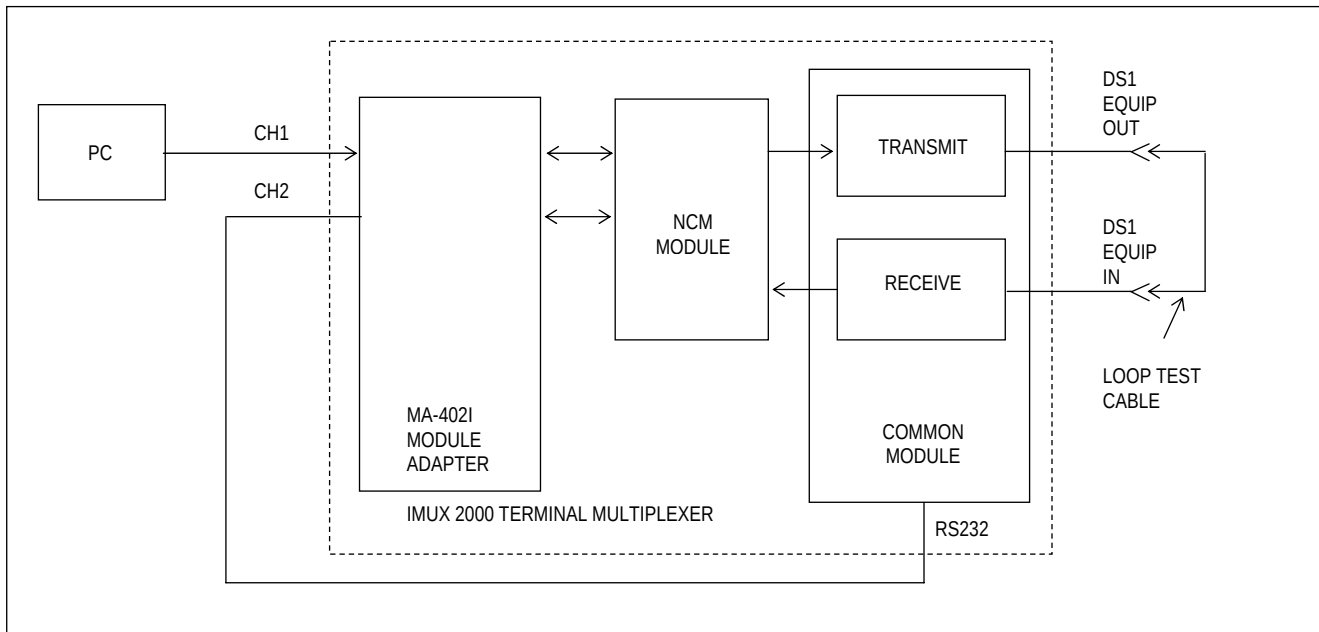

Figure 9. Simplified block diagram, loop test for RFL NCM module in NMS mode, installed in a terminal multiplexer.
8. Connect the PC to the CH1 RS-232 connector using the male to female RS-232 connector. At this point, the equipment should be connected as shown in Figure 9. Run the RFL NMS communications software and set the parameters exactly the same as the CM and the NCM.